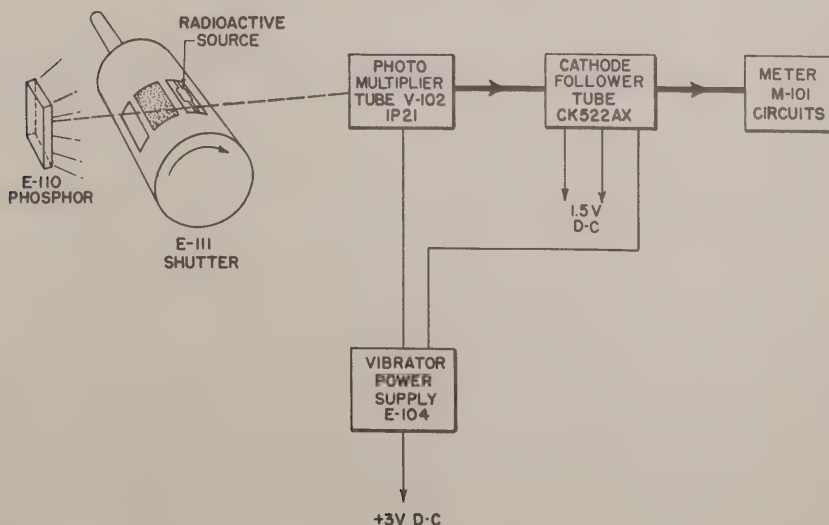

Figure 2-1. Radiacmeter AN/PDR-18A, Functional Block Diagram
a. The Radiac Set AN/PDR-18A is a high intensity gamma ray detector using the scintillation detection technique. Basically it consists of a metal shield which passes gamma rays, but holds back beta rays, a phosphor crystal which emits light when excited by radiation, a photomultiplier tube, an amplifying circuit, and an indicating meter. A block diagram of the circuit is shown in figure 2-1.